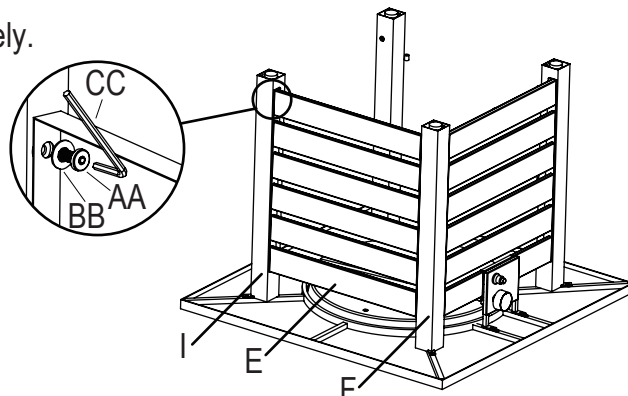

Figure 4
4. Attach right panel (F) to front-right leg (F) and back-right leg (I) with bolts (AA) and washer (BB) using hex screw driver (CC), (see Figure 4).